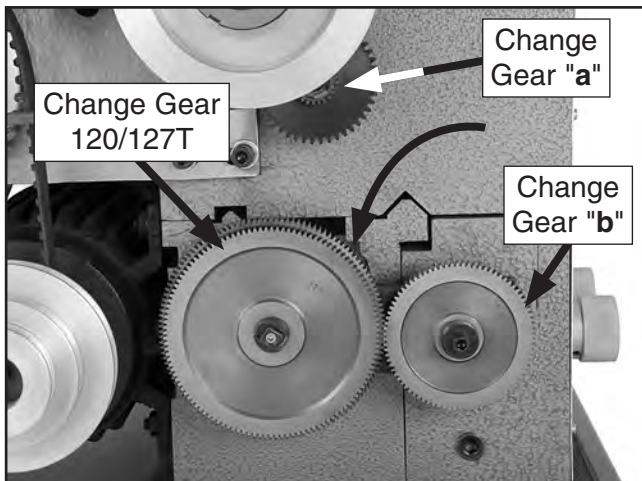

Figure 55. Change gear pivot arm in lowered position.
- a. Loosen the cap screw securing the pivot arm, then lower it to disengage the 120/127T gear from change gear "a" (see **Figure 55**).